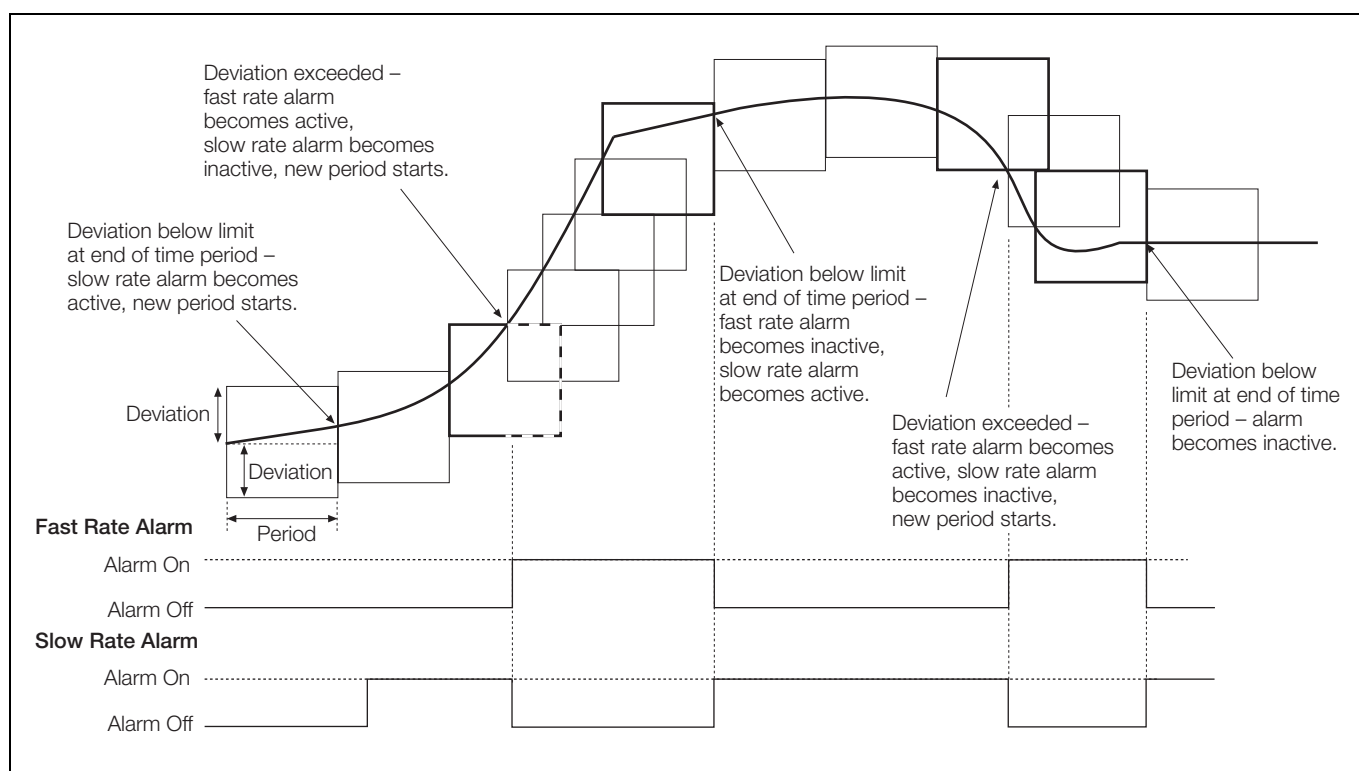

Fig. 4.14 Fast-/Slow-Rate Alarms
- Fast/Slow rate – see Fig. 4.14, page 86
Rate alarms only – see Fig. 4.14, page 86.